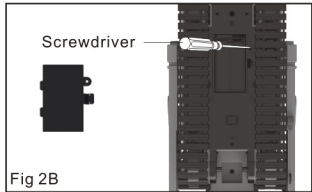

Fig 2B
2. Please screw out the cover at the back of car by screwdriver, open the cover as the arrow showed, insert 2 pcs of 1.5 V AA batteries, then screw the cover (Fig 2B).